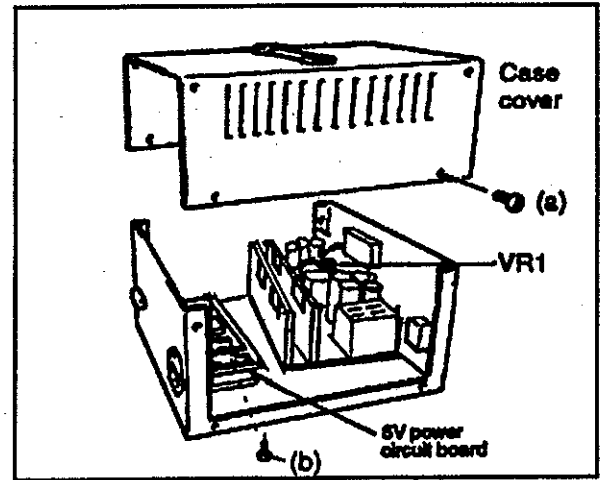

FIG.1
- (1) Remove eight retaining screws (a) and then the case cover (Fig.1).
- (2) Remove two retaining screws (b) and then the 5V power supply with the bracket (Fig.1).
- (2) Plug in the connector and secure the 5V power supply with two retaining screws (b) (Fig.1 and 2).
- (3) Mount the case cover with eight retaining screws(a).